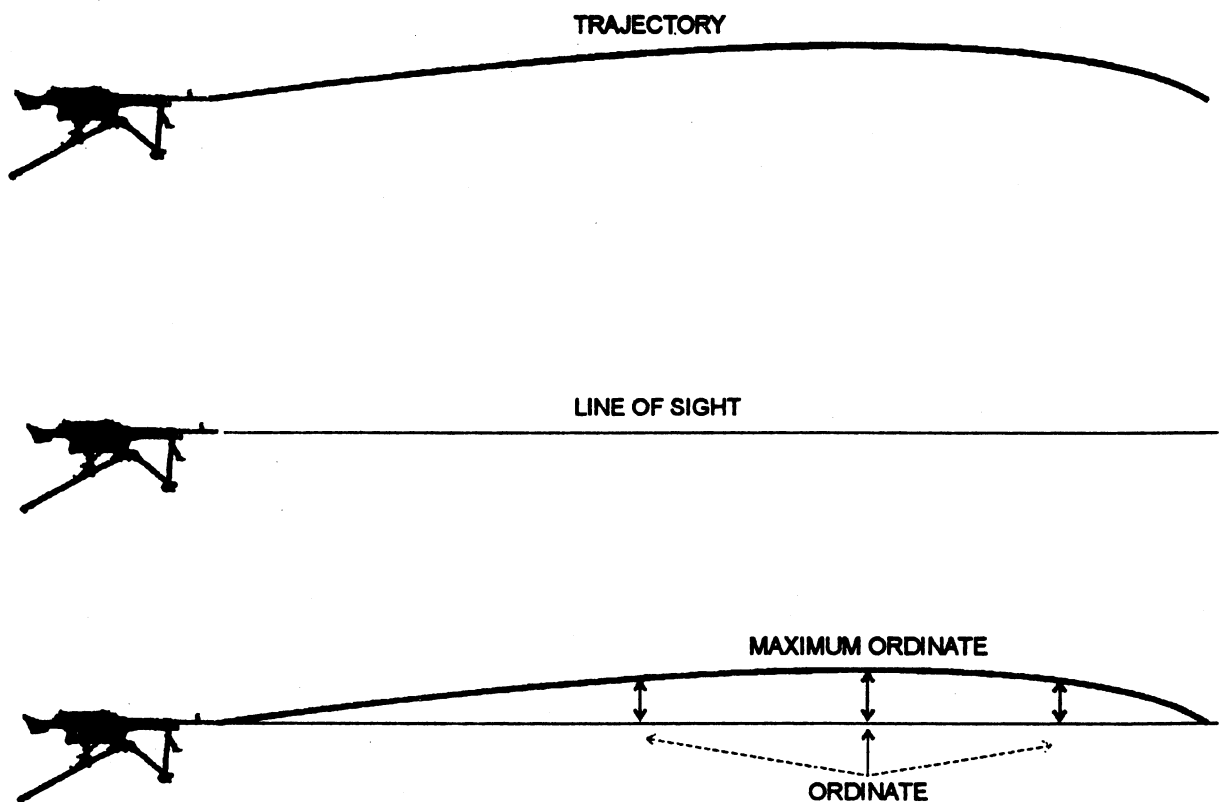

Fig. 3-1. Trajectory, line of sight, and maximum ordinate of a round.
- a. Trajectory. The trajectory is the path of the bullet. The trajectory begins when the round is fired and it ends when the bullet strikes the target or another object. The trajectory of a bullet fired from the M240G machinegun, as with most other weapons, is curved and its curvature increases with the range (see fig 3-1).
- b. Line of sight. The line of sight is the imaginary straight line that runs from your eye, through the sights of the weapon, down range to the target (see fig 3-1).
c. **Ordinate**. Ordinate is the distance between any point on the trajectory and the line of sight. When firing at maximum range with the M240G machinegun, the ordinate increases for about two-thirds of the distance to the target, then it decreases for the remaining third (see fig 3-1.)
d. **Maximum ordinate**. The maximum ordinate is the highest point along a bullet's trajectory. When you fire the M240G machinegun at its maximum effective range, the round reaches its maximum ordinate approximately two-thirds of the distance to the target (see fig 3-1).